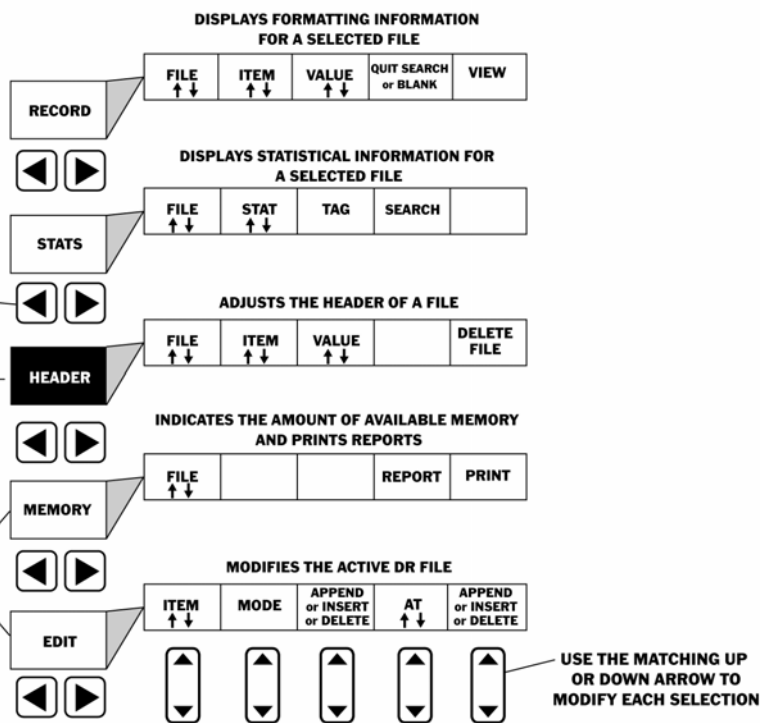

FIGURE 4-4—The DR Master Menu contains many submenus that include the File selection.
Step 1: Open the Data Recorder Menu accessed by pushing . Once the DR Menu (Figure 4-4) is opened, you'll note five submenus listed on the Submenu Bar and three to five selections listed across the bottom of the display.
Step 1: Open the Data Recorder Menu accessed from the Test or TG Mode by pushing  two times. Once the DR Menu is opened (Figure 4-4), you'll note five submenus listed on the Submenu Bar and between three and five selections listed across the bottom of the display.